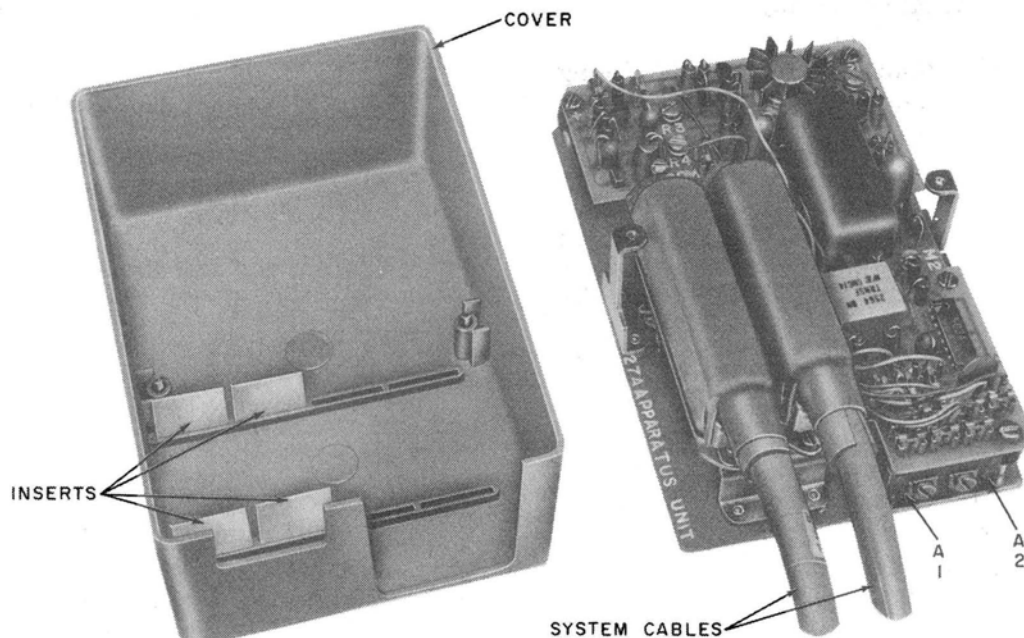
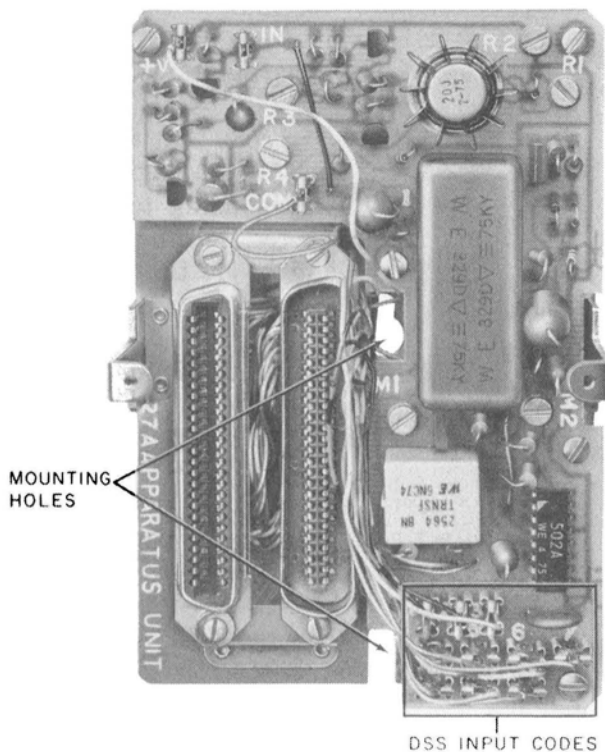

Fig. 20—♦27A Apparatus Unit With L-769856 Cover♦
Fig. 21—♦27A Apparatus Unit
- (1) Remove the cover and mount the base pan assembly (Fig. 20 and 21) in the desired location (use appropriate fasteners per BSP 080-720-103).
- (2) If background music is to be provided, install the 33A voice coupler per 3.14(b).
- (2) If music is provided, connect screw terminals 5 and 6 of the 33A voice coupler to screw terminals M1 and M2 (Fig. 21).
- (3) If the customer's paging system requires a contact closure when the paging occurs, connect the coil circuit of a KS-16626 L12 relay set per BSP 463-120-100 to screw terminals R1 and R2 of the 27A. Also connect a shorting strap between screw terminals R3 and R4.
- (4) Insert system cable or cables (Fig. 20).
- (5) Position inserts (Fig. 20) inside cover to hold cables securely when cover is replaced.